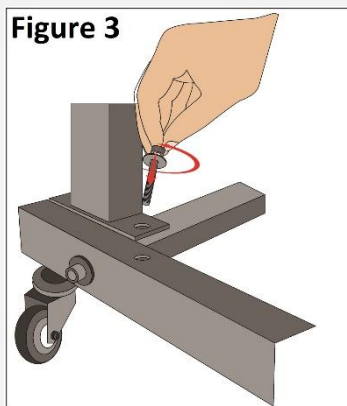

Figure 3
Step 3 – Attach the upright supports to the base as shown in **FIGURE 3**. **DO NOT FULLY TIGHTEN UNTIL YOU HAVE COMPLETED STEP 4.**
Step 4 – Attach the 2 remaining horizontal support bars in between the upright supports. One in the front and one in the back. Tighten the bolts holding the upright to the base as shown in **FIGURE 3**.